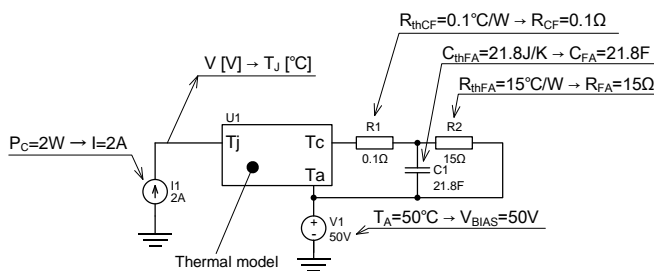

Figure 3. Example of simulation circuit
Next, the simulation circuit and the device configuration are shown in Figures 3 and 4, respectively. From Equations (1) and (2), a voltage with an RC time constant is generated in the Tj pin by applying the power consumption P_D of the device to the Tj pin as a current I and applying the ambient temperature T_A to the Ta pin as a bias voltage V_{BIAS} . This generated voltage represents the junction temperature. In addition, the resistance connected to the Tc pin is R1 that is thermal resistance between the case and the heat sink (R_{thCF}) and R2 that is thermal resistance between the heat sink and the ambient temperature (R_{thFA}). R_{thCF} includes the thermal resistance of the thermal interface material (TIM) and the contact thermal resistance. C1 is the heat capacity of the heat sink. R2 and C1 comprise the heat sink. R2 and C1 comprise the heat sink.